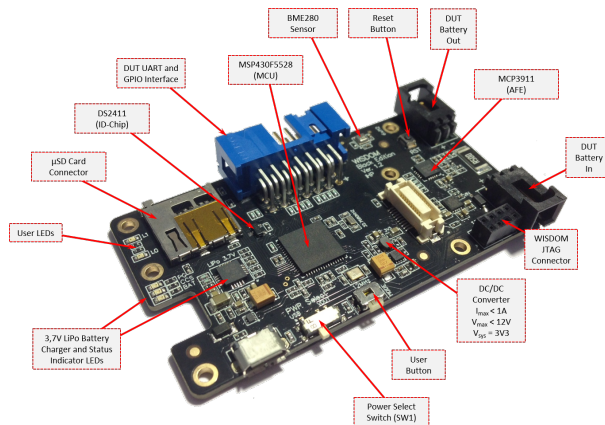
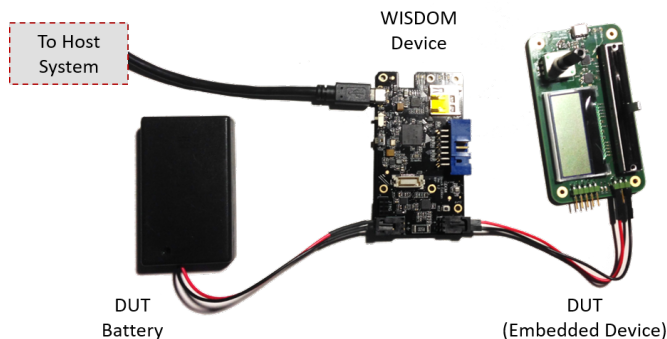

Fig. 1. WISDOM platform and its components.
Fig. 4. Demonstrator equipment and composition showing an example of a embedded device connected to a battery such as in field operation.
stage. The WISDOM platform as shown in figure 1 provides a dynamic range of 1 : 100000 for power metering, which is important for monitoring sensor nodes that operate in deep sleep modes as well as in high power transmission modes. It is based on a Texas Instruments MSP430F528 MCU and has an optional interface to communicate with an attached *Device Under Test (DUT)*. At local operation mode, current and voltage of a connected DUT will be measured at 7800 samples per second. Therefore the DUT power supply needs to be connected to the WISDOM device as shown in figure 4. This can be the DUT battery, a USB connector or another DC power supply.
3. The DUT is a battery supplied wireless sensor node as shown in figure 4, running a simple blink application. This application will be profiled by WISDOM at the beginning to get a rough outline about the actual status. It will then be modified step by step to optimize the power consumption and to show the benefits of using WISDOM already during the early development stage. Finally it will be demonstrated how to assess energy-related optimization options based on the states introduced above.